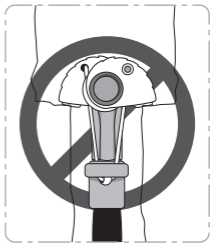

Figure 6
- Basic Cam cannot function as passive protection, and must not be used as shown in **figure 6**.